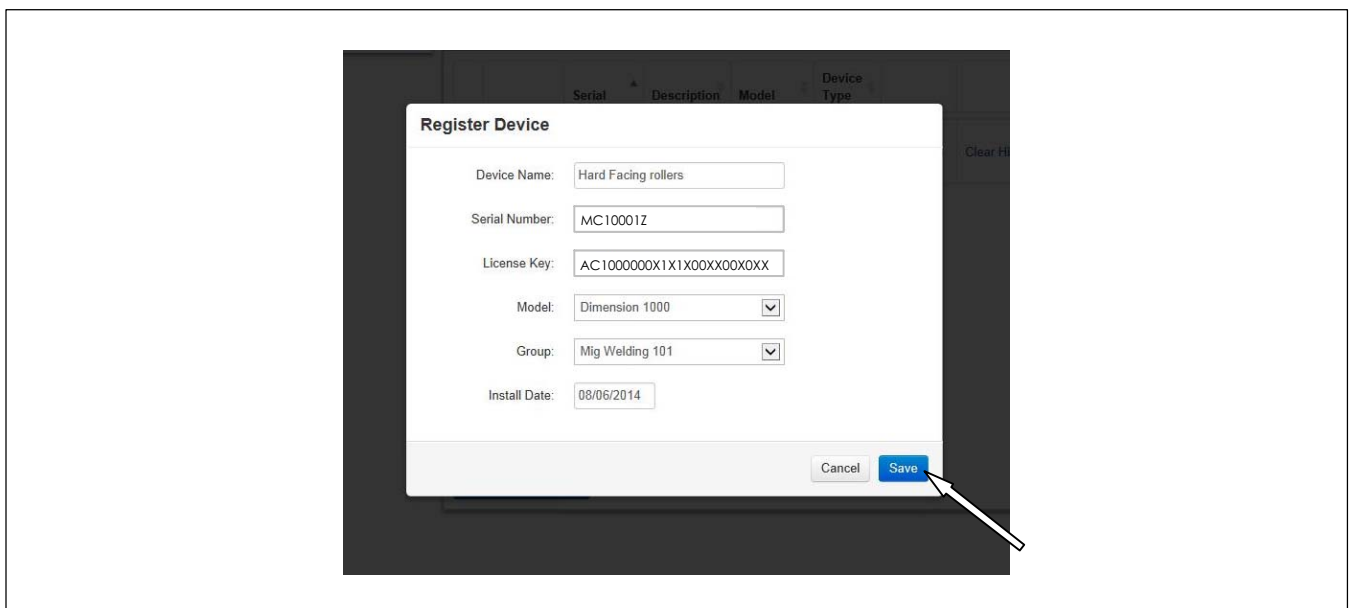

Figure 10-21. Register Device Confirmation Screen
5. A confirmation screen will appear. If the information is correct, click on the Save button (see Figure 10-21).